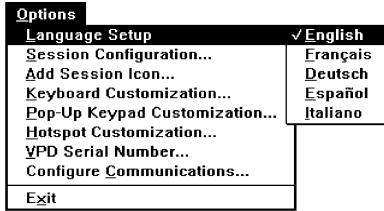

Figure 2-2. Options menu.
- Select the desired language to the right of the language setup option (as shown in Figure 2-2 below)